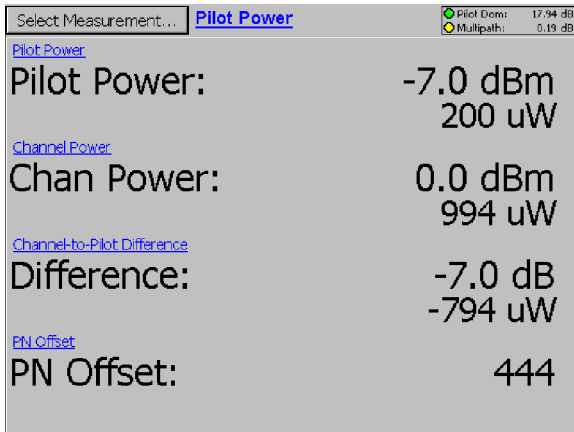

Figure 3-59: A typical Pilot Power display
4. Tap **Pilot Power**. See Figure 3-59.